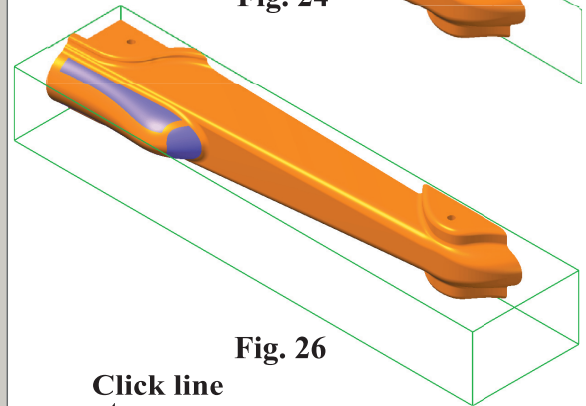

Fig. 26
Step 6. Click **OK**  to close the Translate dialog box, Fig. 26.